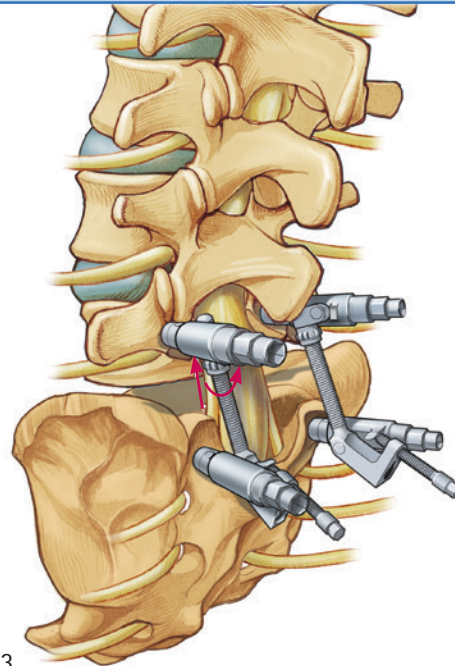

Fig. 13
- Using the S⁴® distractor (FW181R – located in the S⁴ Spinal System set) slowly spread the S⁴ SRI device to achieve the desired distraction and then lock the distraction in place with the distraction nut on the threaded distraction spindle (Fig. 13).